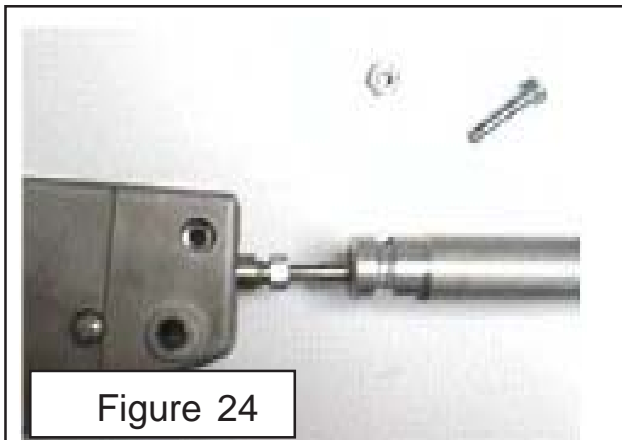

Figure 24
8. To attach the cable, manipulate the controller handle so that the attachment nut is exposed as shown. Remove the lower most nut and screw from the controller housing. Thread the cable nut into the controller attachment nut and tighten. (See Figure 24).